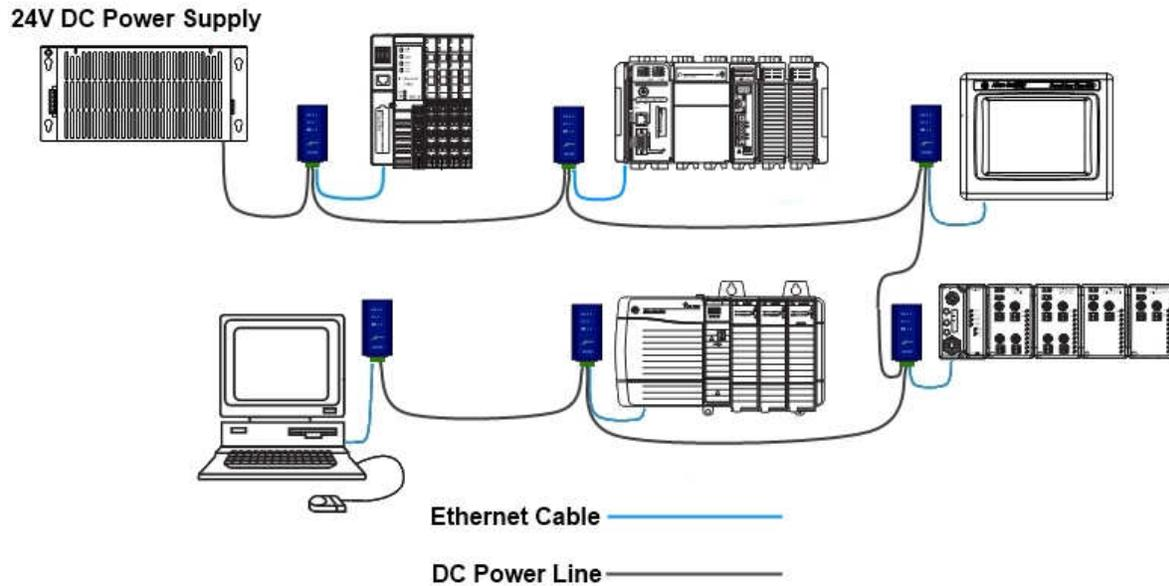

Figure 2.4.6 – Daisy Chain Connection
7. Repeat step 1 to 6 to connect all the Ethernet devices on a VirtualCAT5 network. See the Fig. 2.4.6 to see an example.